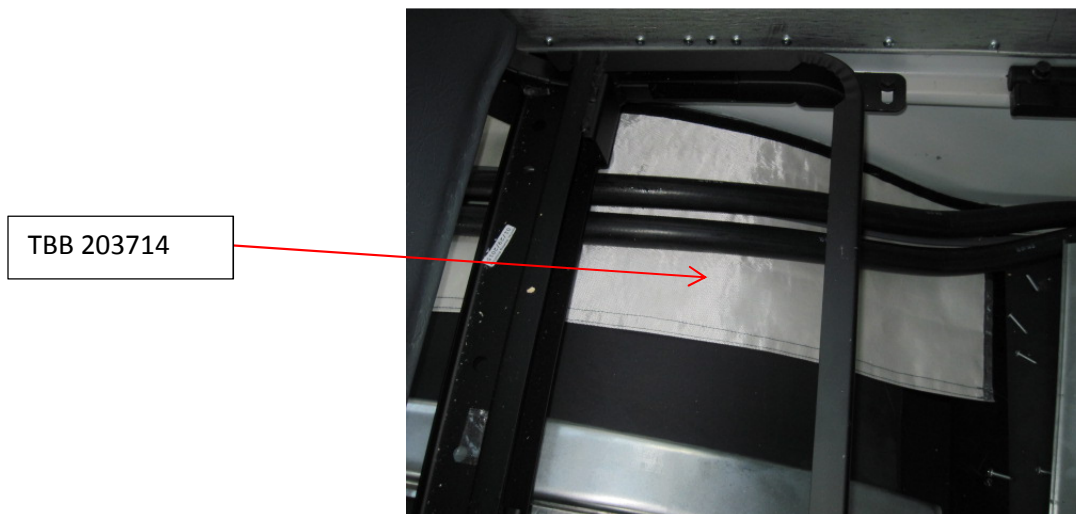

Figure 3
5. The heat cover (TBB 203714) needs to be slid under the heater hoses as shown in **Figure 3**